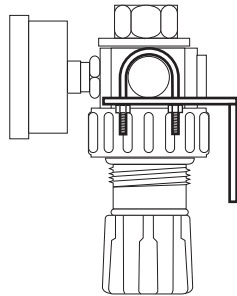

Fig. 2 - Regulator
4. Install the mounting brackets on each side of the air regulator, positioned as shown in **Fig. 2**. If you are using your FRL with a Rhino carrier, refer to Fig. 3. (The carrier is optional and not part of the FRL)